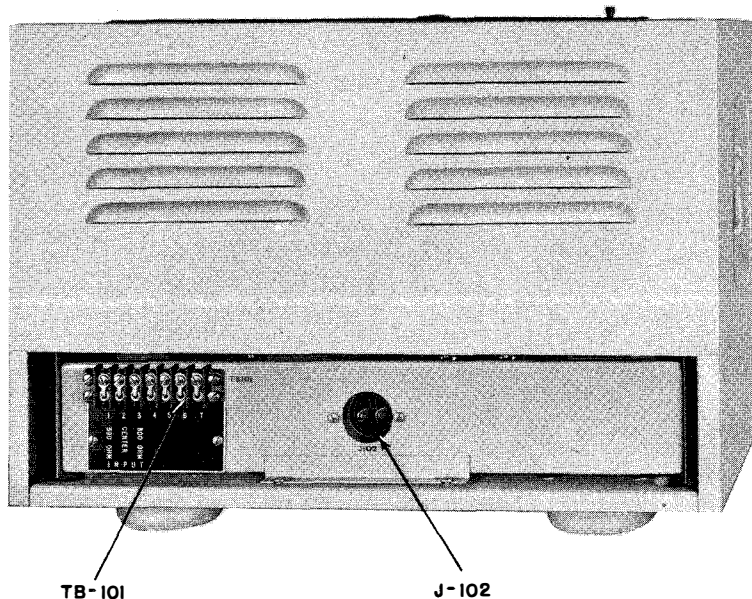

Figure 1-2. Code Recorder, Rear View
Code Tape Recorder RD-112/U is contained in a gray enameled steel case approximately 14 inches high by 19 inches wide by 13 1/2 inches deep. Its total uncrated weight is approximately 80 pounds and its cubic displacement approximately 2 1/2 cu. feet. A hinged lid, located on the case top, permits easy access to the interior of the unit. Defective vacuum tubes may be replaced through this opening without necessitating removal of the front panel and chassis. Recessed carrying handles are located on each side of the equipment case. The ink reservoir assembly, recording pen assembly, all controls, switches and indicators necessary for normal operation of the equipment are located on the front panel. The A.C. power receptacle and signal input terminals are located at the rear of the chassis. (J-102 and TB-101 respectively in Fig. 1-2 below.)
b. **SIGNAL INPUT CONNECTIONS.** Signal input connections are made to terminal board TB-101, located at the rear of the chassis. See Fig. 1-2. The recorder input impedance is 600 ohms, center tapped. With the center tap grounded, it may therefore be connected to match signal source output impedance of 600 ohms balanced to ground, 600 ohms single or 300 ohms single. Terminals 4, 5, 6 and 7 are unused, and are provided only for possible future use.